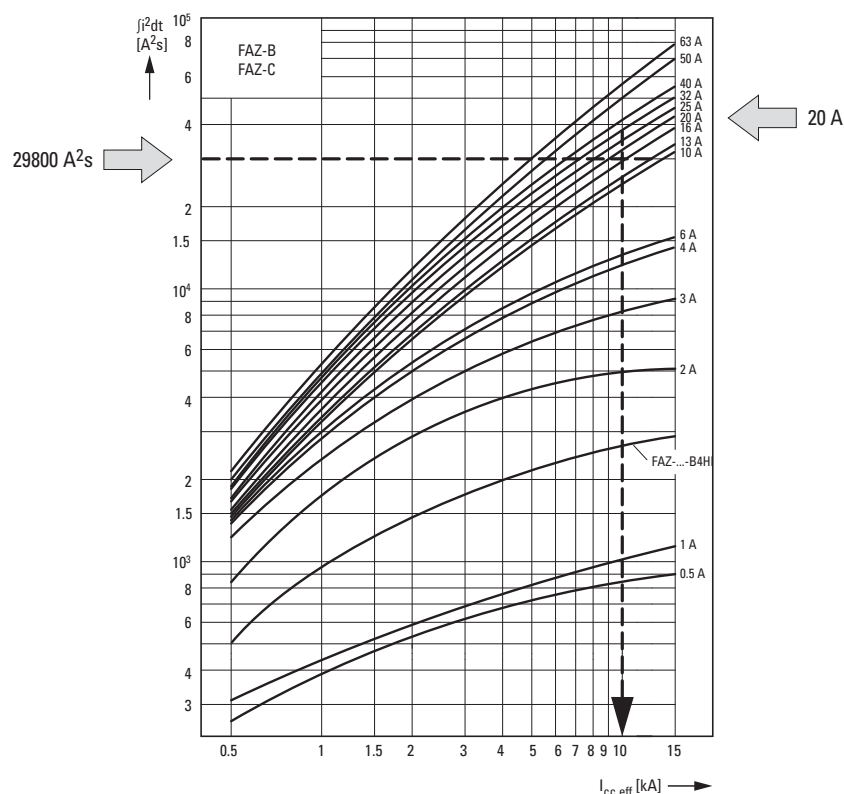

Figure 12: Cable protection with FAZ-3-B20
- Therefore the short-circuit current $I_{cc \text{ r.m.s.}}$ at the mounting location must not exceed 10 kA (a characteristic curve Figure 12).